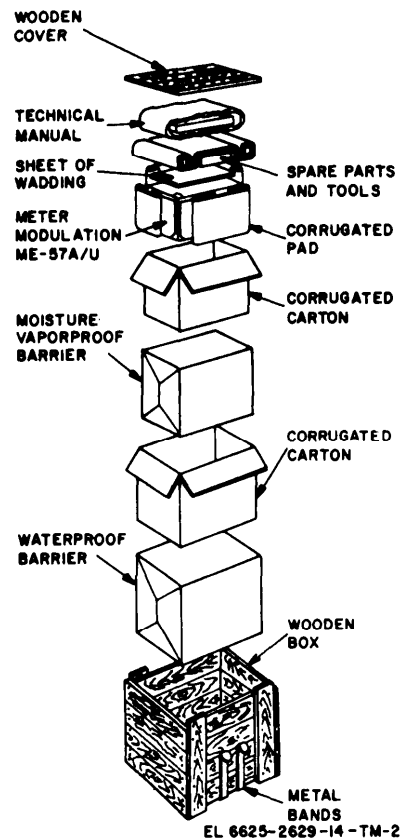

Figure 2-1. Typical packaging.
a. *Packaging Data.* When packed for shipment, the modulation meter is placed in a waterproof carton and packed in a wooden packing case. A typical packing case and its contents are shown in figure 2-1.
b. *Removing Contents ( Wooden Packing Case).* Perform all of the procedures in (1) through (5) below when unpacking an equipment in a wooden packing case.
- (1) Cut and fold back the metal straps.
*g.* Place the transit case cover in place and snap closed the eight fasteners that secure the lid to the case. The modulation is prepared for movement unless shipment is involved (fig. 2-1).